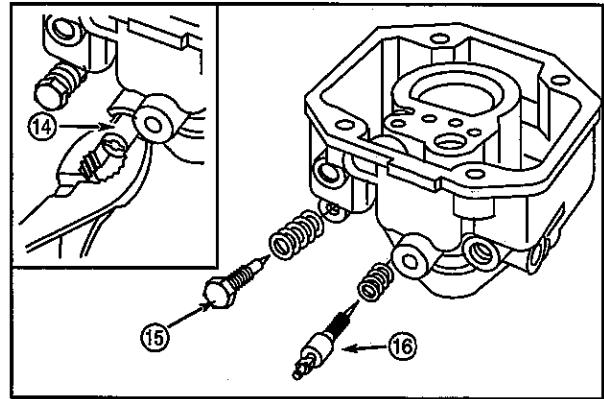

Fig. 101
If equipped, remove adjustment limiter cap (14) with a pliers (inset) before removing idle mixture screw, Fig. 101.
8. Remove idle mixture screw (16) and spring.
9. Remove fuel bowl drain screw (15) and spring.